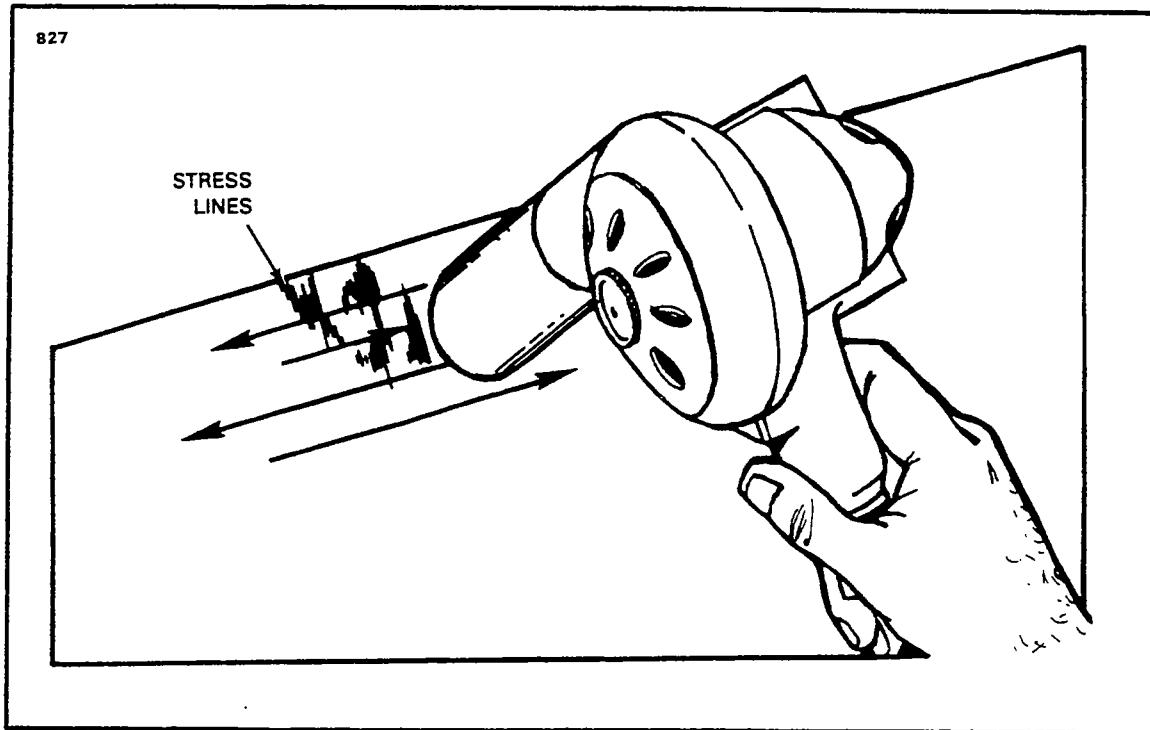

Figure 4-17. Repair of Stress Lines
- f. Stress Lines: (Refer to Figure 4-17.)